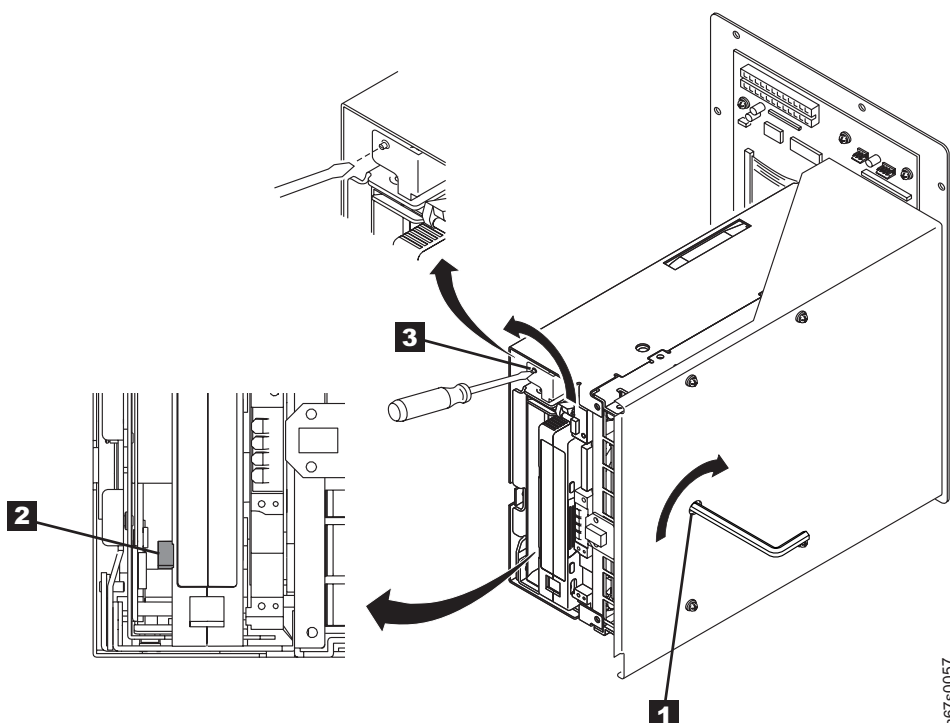

Figure 34. Determining whether the tape is broken
6. Place the drive assembly sled so that the front of the drive faces you, then stand it on its left side (see Figure 34 on page 102).
7. On the bottom of the drive assembly sled, locate the bottom access hole (**1** in Figure 34 on page 102).
- If the takeup reel is not turning and the allen wrench rotates freely, the tape is broken or the tape (along with the leader pin) is completely contained in the cartridge. Insert a small-blade screwdriver or potentiometer-setting tool into the access hole of the loader motor gear (**3** in Figure 34 on page 102).
1. With the allen wrench still inserted into the bottom access hole, insert a small-blade screwdriver or potentiometer-setting tool into the slotted shaft of the loader motor gear (**3** in Figure 34).